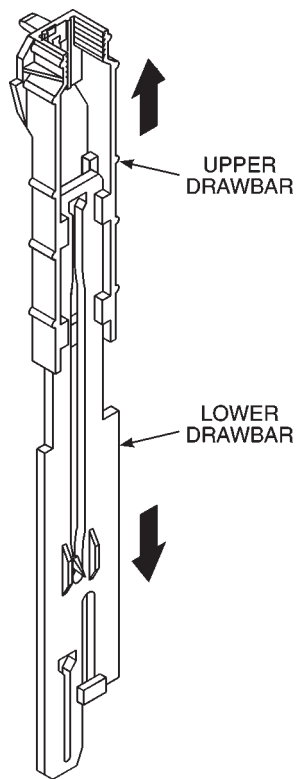

Fig. 1-28
3. Slide the drawbars apart. (Fig. 1-28)
10. Slide the upper and lower drawbars together. (*Fig. 1-28*)